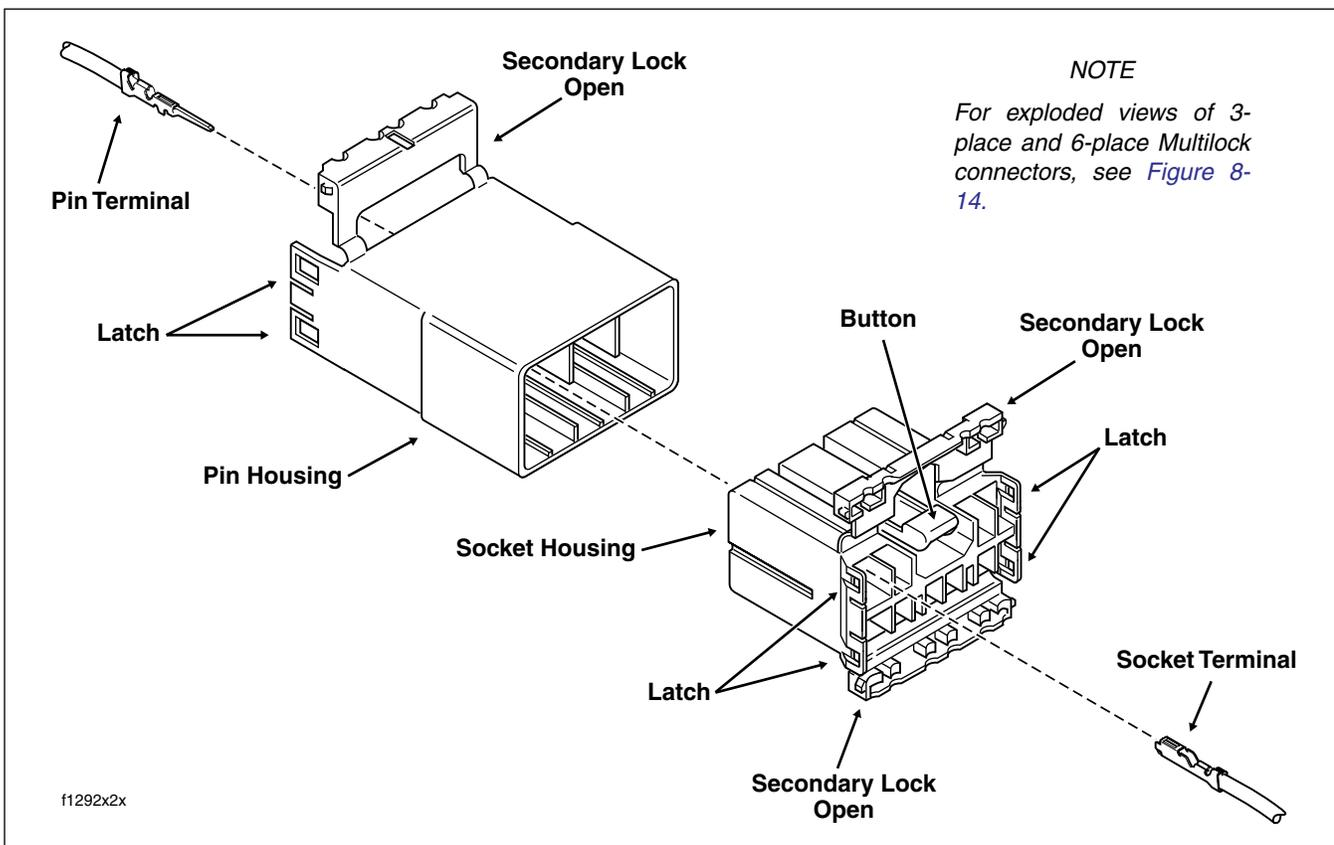

Figure 8-10. 10-Place Multilock Connector (Exploded View)
2. Depress the button on the socket terminal side of the connector (plug) and pull apart the pin and socket halves. See Figure 8-10.